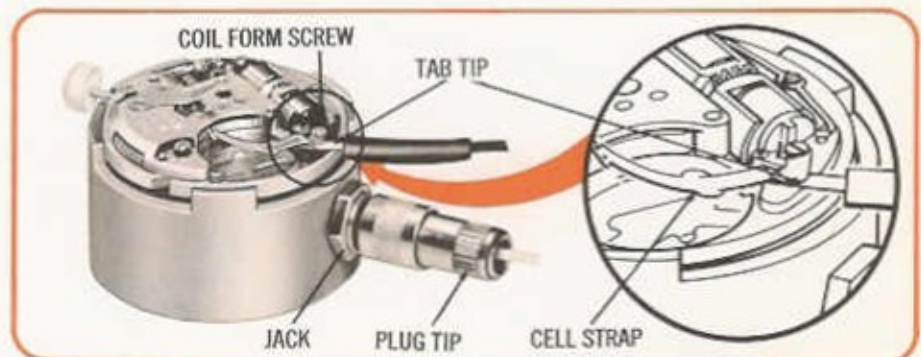

Fig. 21
8. Insert plug tip of Test Set lead into the jack of the movement holder. Insert tab tip of other lead of Test Set under strap as shown in Fig. 21. With PowerCell in the nest of Test Set, turn rotary switch to "LOW AMPLITUDE" position. If tuning fork does not begin to vibrate, an excess current reading will be indicated on meter of Test Set. Should this occur, tap movement holder lightly and fork will start. Current reading will then drop to the lower end of "OK" area, or slightly below.
1. Insert plug tip of Test Set lead into the jack of the movement holder. (See Fig. 21.)
2. Insert tab tip of other lead of Test Set under cell strap as shown in Fig. 21.